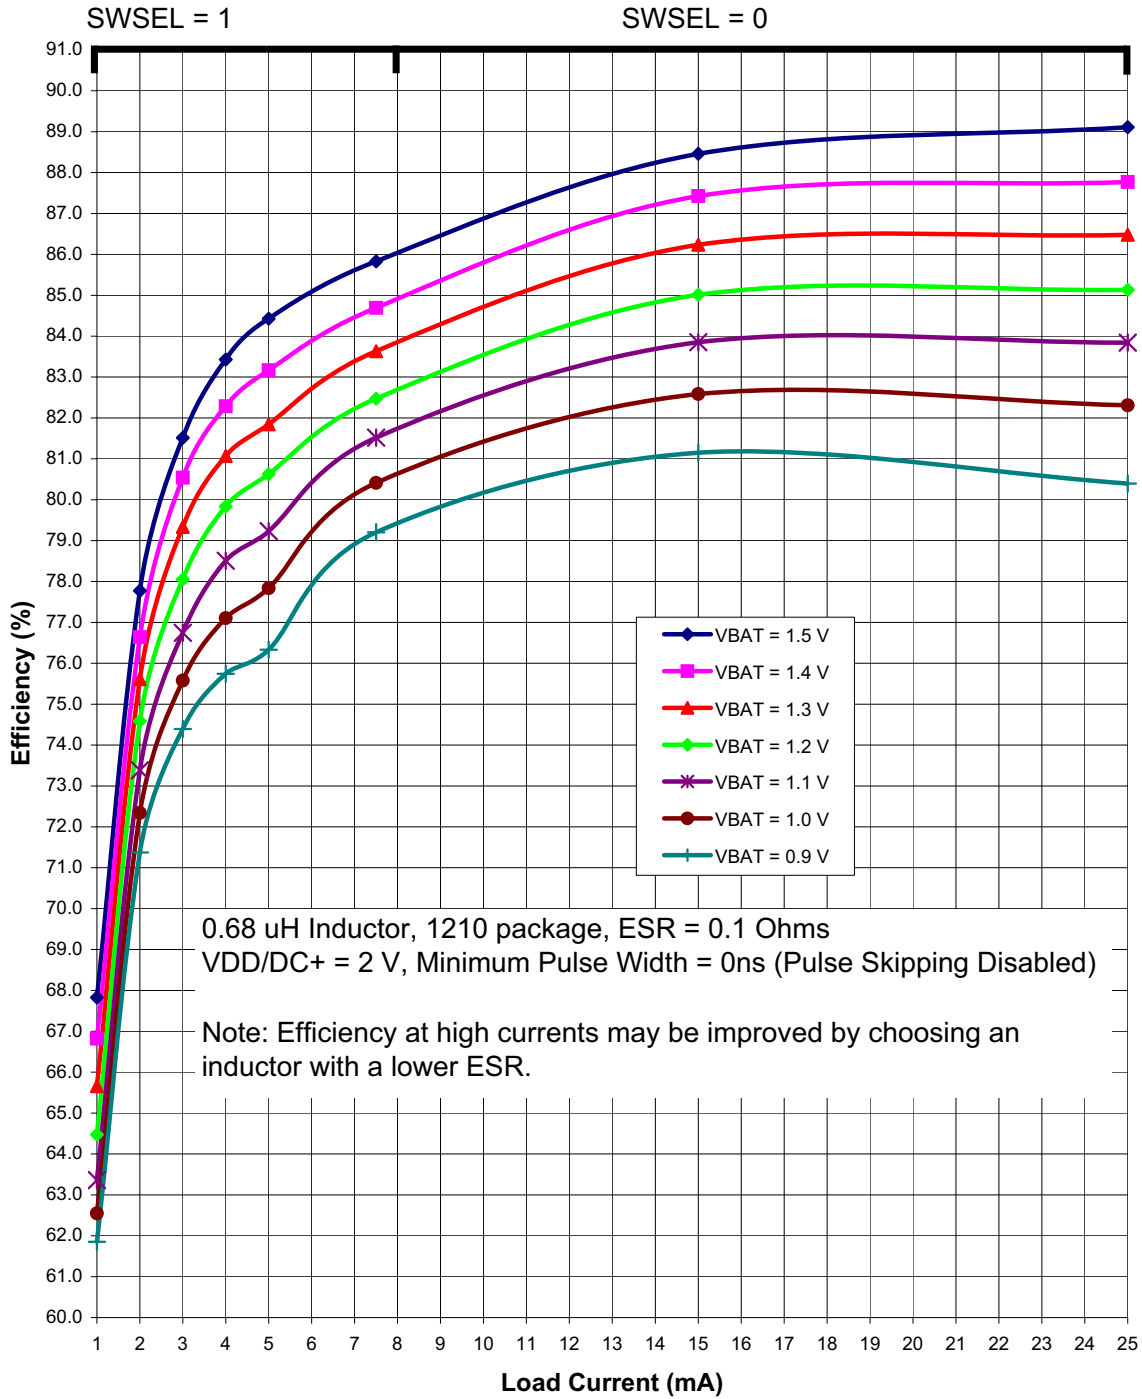
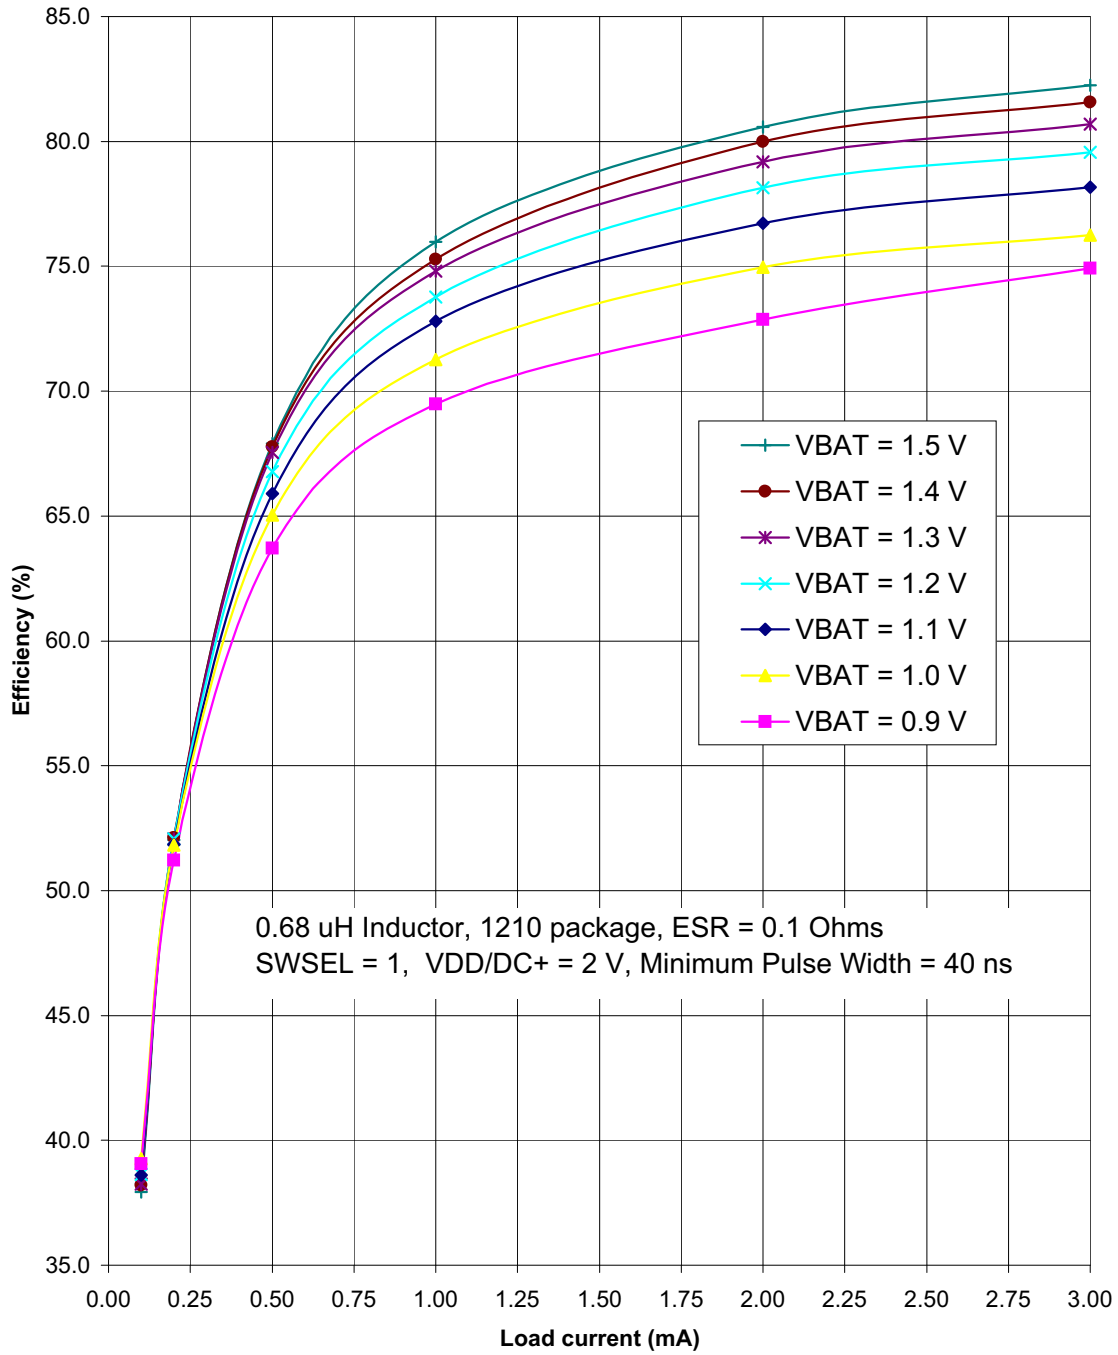

Figure 4.3. Typical DC-DC Converter Efficiency (High Current, VDD/DC+ = 2 V)
Figure 4.5. Typical DC-DC Converter Efficiency (Low Current, VDD/DC+ = 2 V)
<p>Notes:</p> <ol style="list-style-type: none"> Based on device characterization data; Not production tested. SYSCLK must be at least 32 kHz to enable debugging. Digital Supply Current depends upon the particular code being executed. The values in this table are obtained with the CPU executing an "sjmp \$" loop, which is the compiled form of a while(1) loop in C. One iteration requires 3 CPU clock cycles, and the Flash memory is read on each cycle. The supply current will vary slightly based on the physical location of the sjmp instruction and the number of Flash address lines that toggle as a result. In the worst case, current can increase by up to 30% if the sjmp loop straddles a 128-byte Flash address boundary (e.g., 0x007F to 0x0080). Real-world code with larger loops and longer linear sequences will have few transitions across the 128-byte address boundaries. Includes oscillator and regulator supply current. IDD can be estimated for frequencies ≤ 10 MHz by simply multiplying the frequency of interest by the frequency sensitivity number for that range, then adding an offset of 90 μA. When using these numbers to estimate I_{DD} for >10 MHz, the estimate should be the current at 25 MHz minus the difference in current indicated by the frequency sensitivity number. For example: $V_{DD} = 3.0$ V; $F = 20$ MHz, $I_{DD} = 4.1$ mA – $(25 \text{ MHz} - 20 \text{ MHz}) \times 0.120 \text{ mA/MHz} = 3.5$ mA. The Supply Voltage is the voltage at the VDD_MCU pin, typically 1.8 to 3.6 V (default = 1.9 V). Idle IDD can be estimated by taking the current at 25 MHz minus the difference in current indicated by the frequency sensitivity number. For example: $V_{DD} = 3.0$ V; $F = 5$ MHz, Idle $I_{DD} = 2.5$ mA – $(25 \text{ MHz} - 5 \text{ MHz}) \times 0.095 \text{ mA/MHz} = 0.6$ mA. The supply current specifications in Table 4.2 are for two cell mode. The VBAT current in one-cell mode can be estimated using the following equation: $\text{VBAT Current (one-cell mode)} = \frac{\text{Supply Voltage} \times \text{Supply Current (two-cell mode)}}{\text{DC-DC Converter Efficiency} \times \text{VBAT Voltage}}$ <p>The VBAT Voltage is the voltage at the VBAT pin, typically 0.9 to 1.8 V. The Supply Current (two-cell mode) is the data sheet specification for supply current. The Supply Voltage is the voltage at the VDD/DC+ pin, typically 1.8 to 3.3 V (default = 1.9 V). The DC-DC Converter Efficiency can be estimated using Figure 4.3–Figure 4.5.</p> The EZRadioPRO peripheral is placed in Shutdown mode.